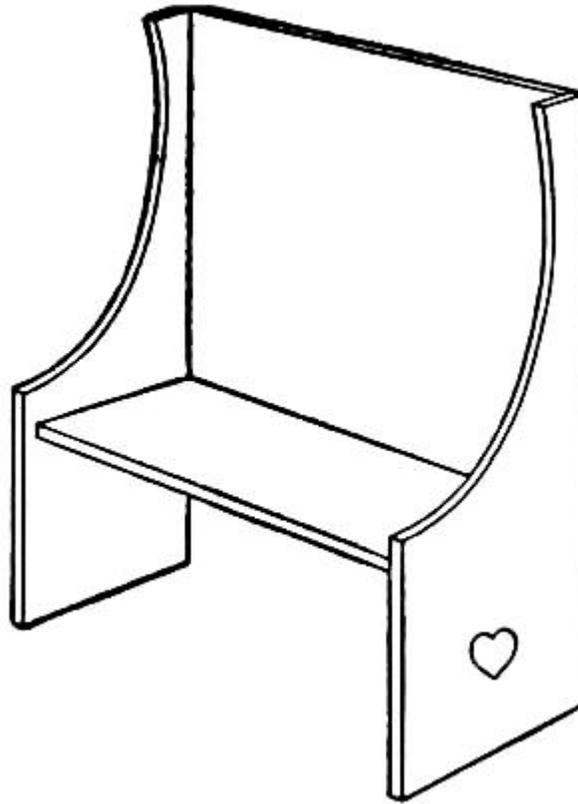

FIG. 129.—A Settee.
**The Settee** (Fig. 129) should have its sides cut by the pattern of Fig. 120. Make the back-piece three and three-quarters inches wide and three and one-quarter inches high, and the seat three and three-quarters inches by an inch and one-half. Fasten the seat against the back an inch and one-half above the base.